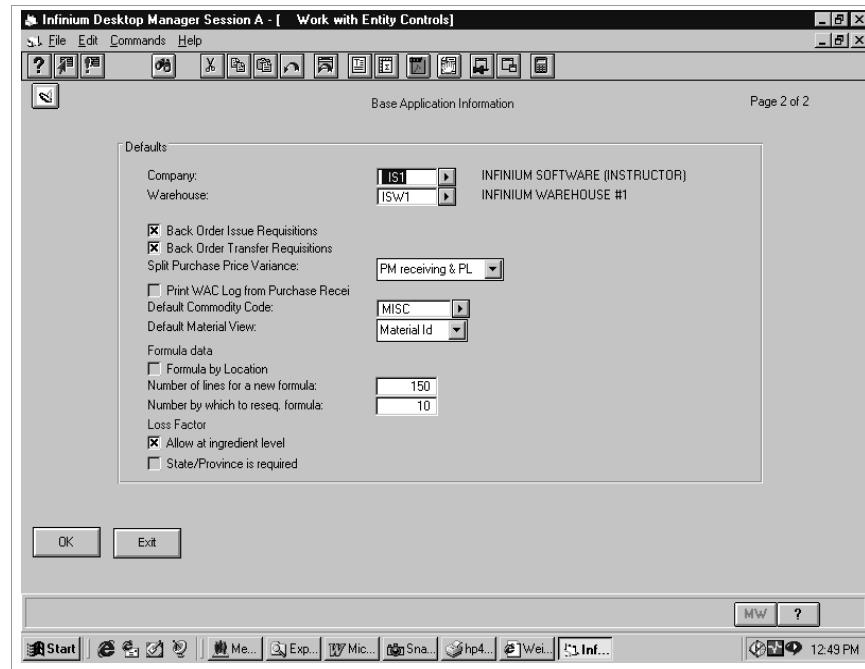

Figure 4-4: Work with Entity Controls Base Application Information screen 2
- 6 Press Enter. The system displays the screen shown in Figure 4-4.